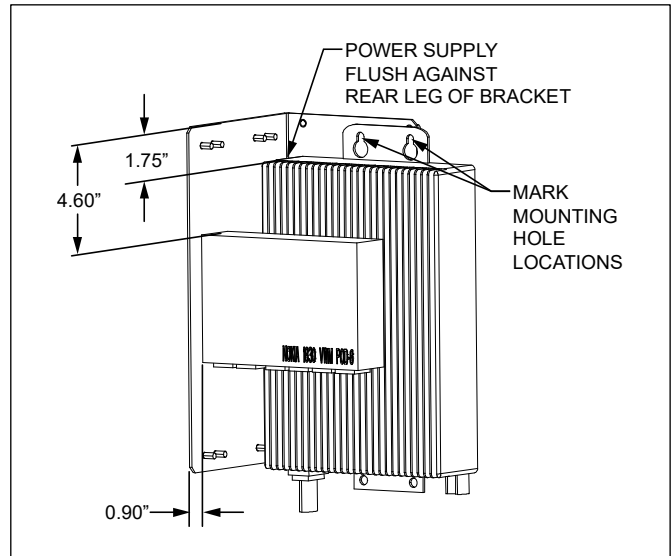

Figure 11
2. The Nokia POD-8 multiplexer and the Nokia APAM power supply are mounted onto the L-shaped power supply mounting bracket. This bracket does not have mounting holes for these devices, so they must be drilled. See Figure 11 for positioning information. For the multiplexer, position the device in the location shown and mark the locations of the mounting holes.